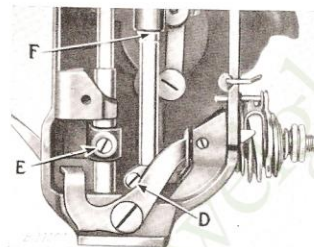

Fig. 117. Needle Bar Set at Correct Height.
With the needle bar in this position, the **upper timing mark** should be centred with the lower end of the needle bar bushing as shown at (F, Fig. 117). If the needle bar is not set at the correct height, loosen screw (D, Fig. 117) and move the needle bar up or down until the **upper timing mark** is centred with the lower end of the needle bar bushing as shown at (F, Fig. 117). Then securely tighten screw (D).